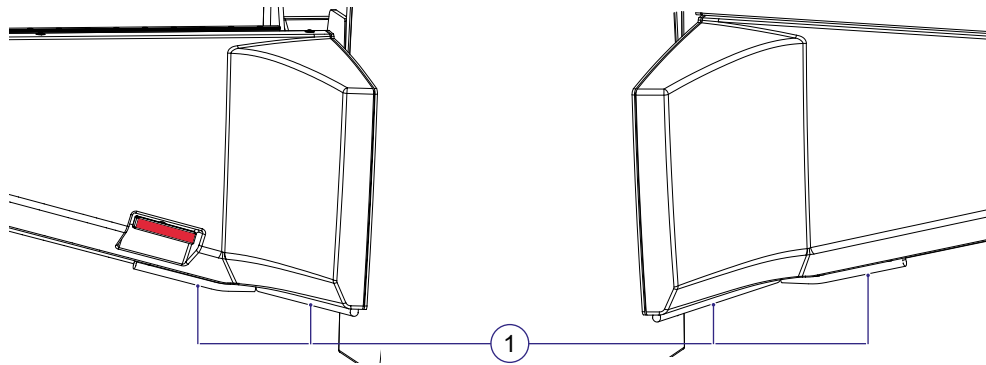

Figure 3.5 Foot squeeze protection sensors
Underneath the patient positioning system, at each side of the couch and close to the radiation unit, there are foot squeeze protection sensors (1) (see Figure 3.5). If any object gets caught between the patient positioning system and the floor during movements of the couch, the sensors trigger a system error and all movements of the couch stop.